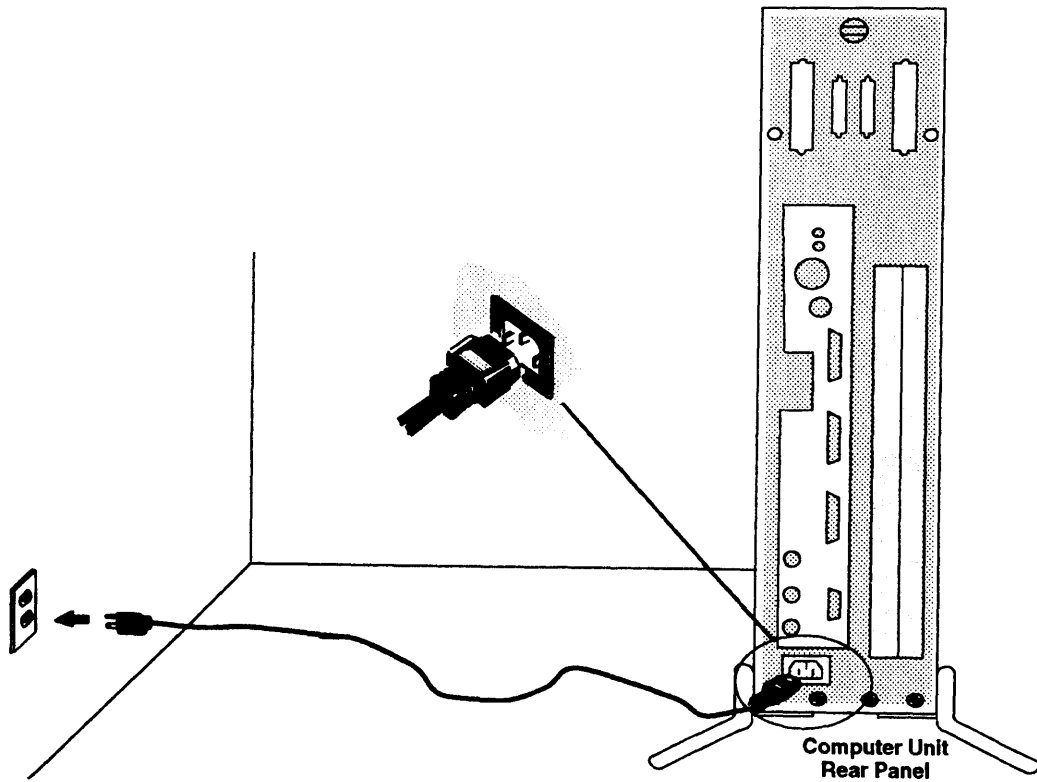

Figure 2-18 Connecting the Computer Unit Power Cord
2. The computer unit is shipped with a yellow and black warning label covering the rear panel ac connector. Examine the computer unit's device rating label to be sure your computer unit's voltage is properly set for your site. If the label indicates proper voltage, remove the warning label and plug the female end of the computer unit power cord into the ac connector as shown in Figure 2-18.